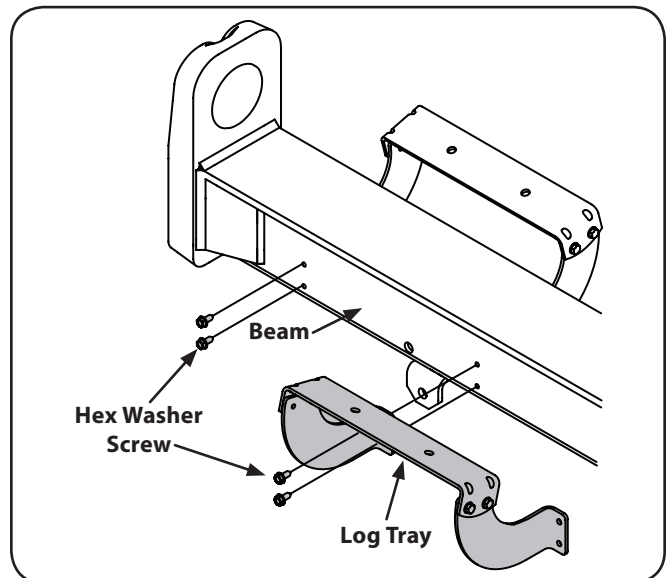

Figure 3-5
15. Disconnect the log tray from the beam on the side of the control valve by removing the two hex washer screws that secure it to the beam weld brackets and the two hex washer screws in the beam. See Fig. 3-5.